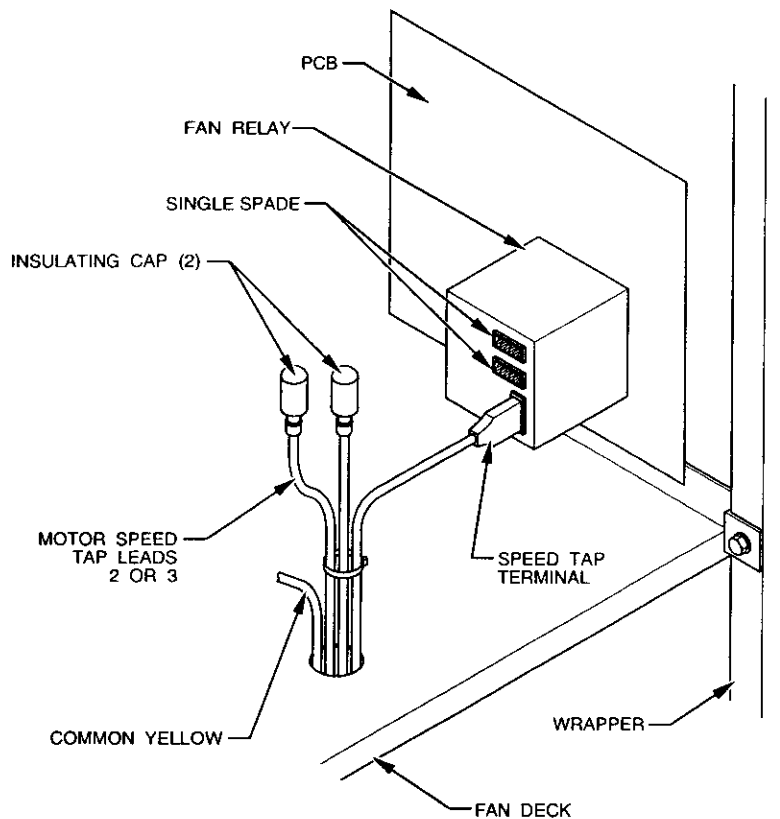

Fig. 15—Motor Speed Tap and Fan Relay
1. Speed tap selection is done at fan relay. To change motor speeds, disconnect fan lead on relay and replace with motor speed tap desired. Save insulating cap and place on motor lead that was removed from relay. (See Fig. 15.) Refer to Table 6 for further clarification of speed tap selections.